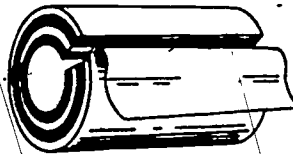

Figure 50. Frostproof Insulation
**FROSTPROOF.** Frostproof insulation, (see figure 50), is manufactured to be used on cold water service lines that pass through unheated areas and those exposed to outside weather conditions. Frostproof insulation is generally constructed with five layers of felt. These layers include three of pure wool felt and two of asphalt saturated asbestos felts. Frostproof insulation comes in three-foot lengths and is 1 1/4 inches thick with a canvas cover.